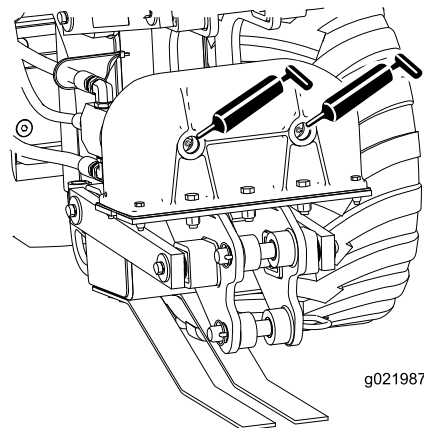
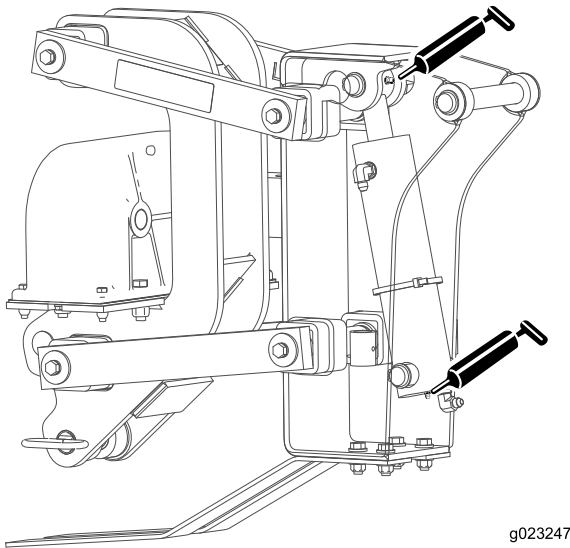
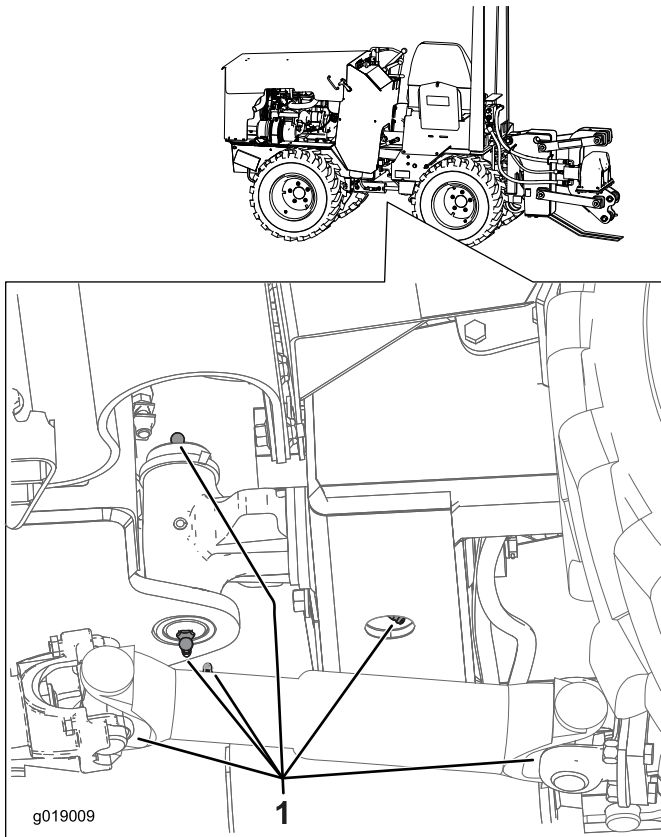

Figure 17
Figure 18
Figure 19
2. Connect a grease gun to each fitting (Figure 17, Figure 18, and Figure 19).